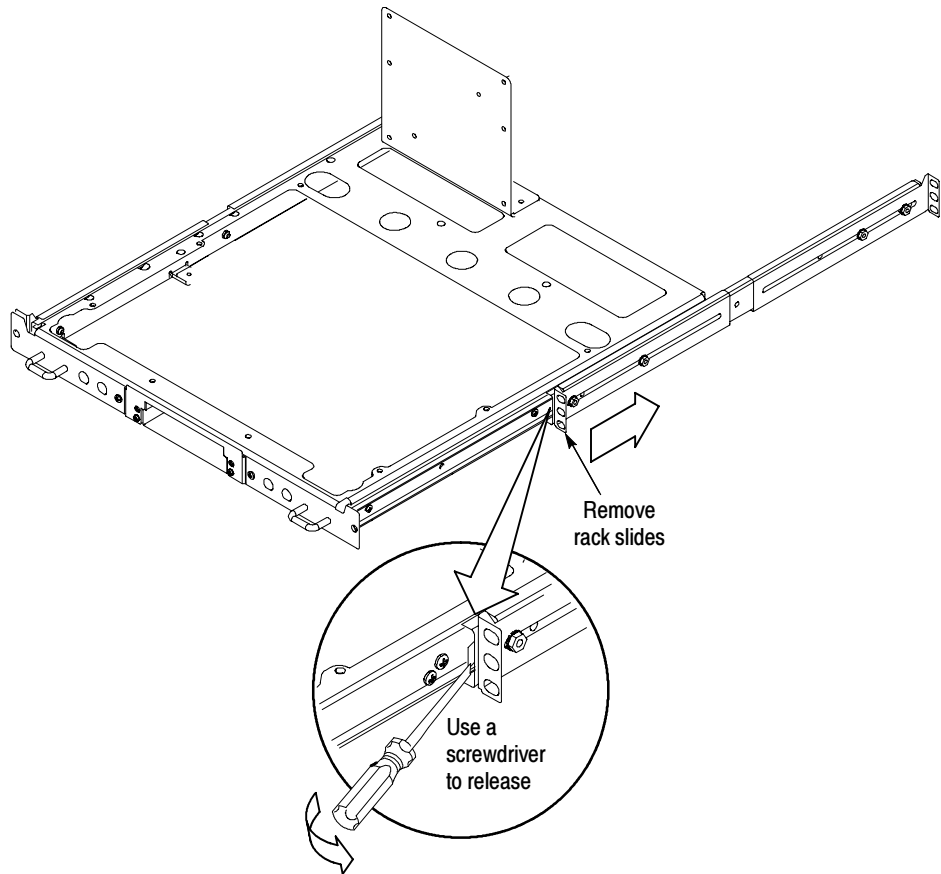

Figure 5: Removing the rack slides (configurations 1 and 2 shown)
1. Remove the rack slides. See Figure 5.